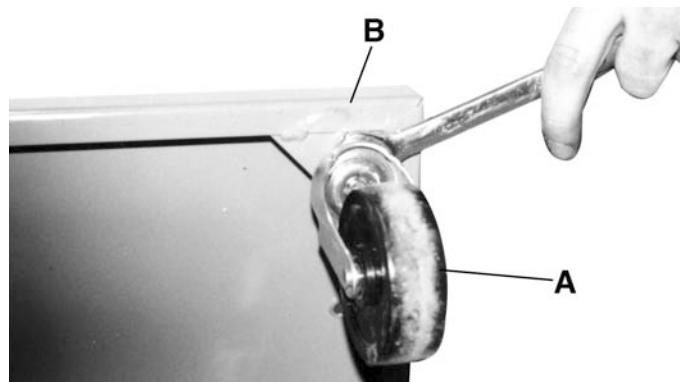

FIGURE 5
1. Install the four casters (A) Fig.5 to the under side of the base (B). Do not remove the lock washers and nuts from caster roller shafts; these act as spacers. Insert caster shaft into threaded hole on the underside of the base, turn until it is snug, then tighten nut with wrench.